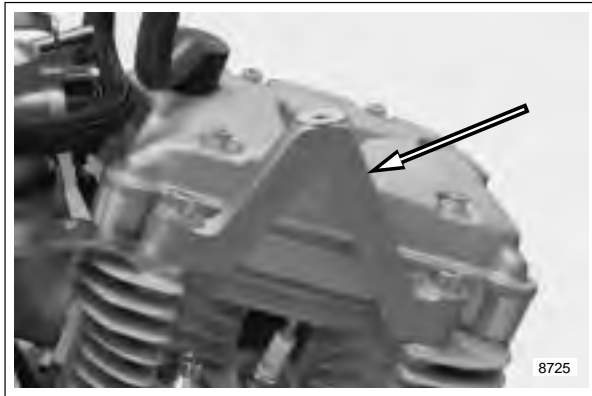

Figure 3-26. Center Tie Bar Mount
- b. See Figure 3-26. Center tie bar mount.